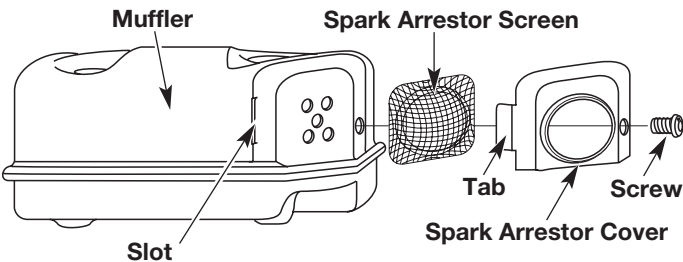

Fig. 57
2. With a flat blade screwdriver or Torx T-20 bit, remove the screw attaching the spark arrestor cover to the muffler (Fig. 57).